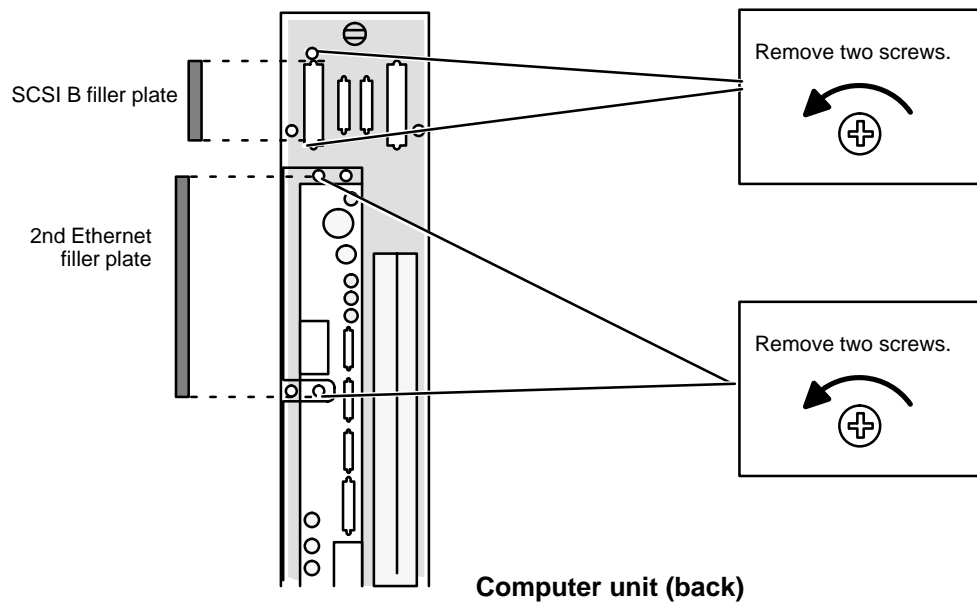

Figure 9-14 Removing SCSI B and Second Ethernet Connector Filler Plates
1. Remove the filler plates that cover the SCSI B and second Ethernet connector openings on the computer unit bulkhead. Figure 9-14 shows the filler plate locations.